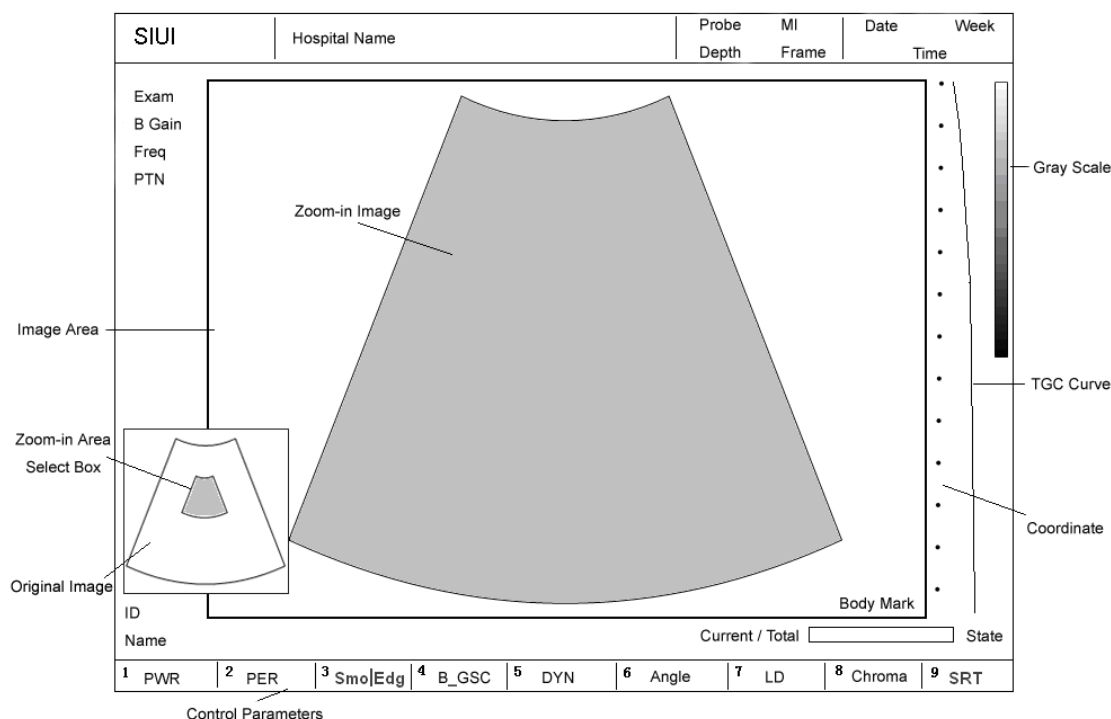

Fig. 6-4 Zoom State Diagram
- In unfrozen or frozen state, press **Zoom** to enter the zoom state and a zoom-in area select box will be displayed at the bottom left of the screen. See Fig. 6-4.